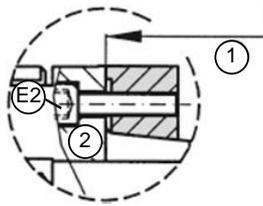
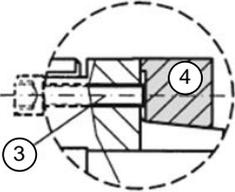

Figure 3
Figure 4
- ◆ ETH100&125: loosen all clamping screws (Figure 3 Pos.E2) equally (approx. 3 mm) and screw in two of the screws in the open tapped holes. Now tighten screws evenly until the clamp collar (Fig. 4, Pos. 4) is released from the coupling hub (Fig. 3, Pos.2) and can be freely moved.